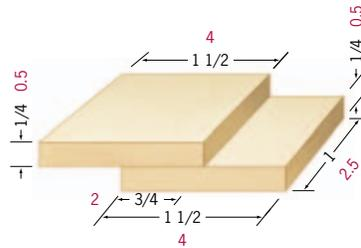

Fig. 4 \_\_\_\_\_
- Fig. 4** lap joint; Example: Answers will vary. Sample answers: shovel, fence, scissors.